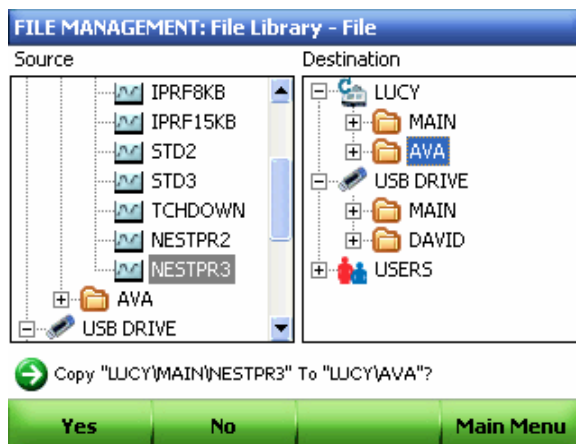

Figure 90. Select the destination folder.
5. Using the up and down arrow keys, select the destination folder (Figure 90).